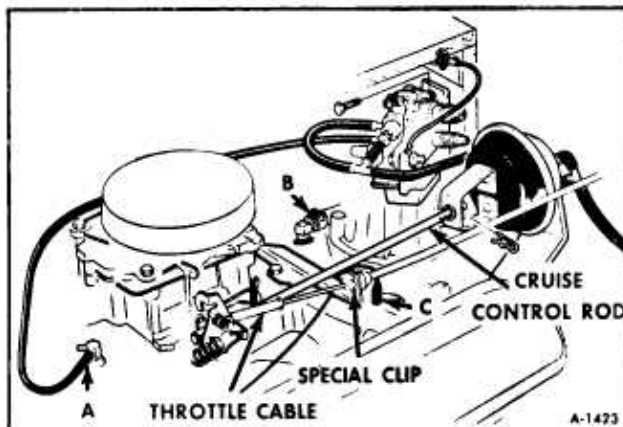
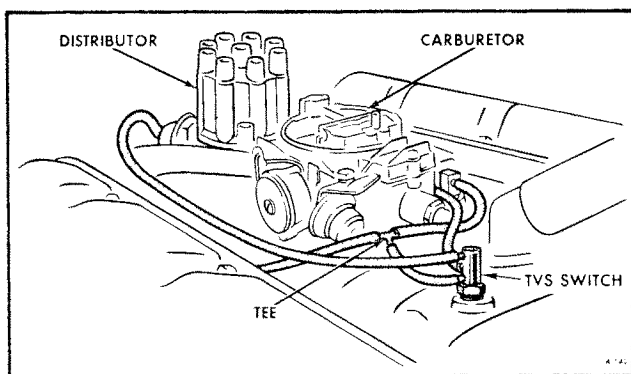

Figure 11-Location for Disconnecting Vacuum Hoses and Throttle Cable
Figure 12-Distributor and Transmission Vacuum Lines
9. Disconnect throttle cable, and cruise control rod (if equipped) from carburetor throttle lever. (See figure 11). Remove cruise control rod.
11. Disconnect vacuum lines from the distributor and tee as shown in Figure 12. Disconnect vacuum line from the front of the carburetor which leads to the carbon canister. Referring to Figure 11, disconnect from the intake manifold-vacuum lines to the brake booster (B), heater control (C) and cruise control (A) (if so equipped).
6. Connect vacuum lines to the distributor and tee as shown in Figure 12. Connect vacuum line to front of carburetor (from the carbon canister). Connect to the intake manifold vacuum lines, to the brake booster, heater control and cruise control (if equipped). See Figure 11.
7. Connect throttle cable, and cruise control (if equipped). See Figure 11.